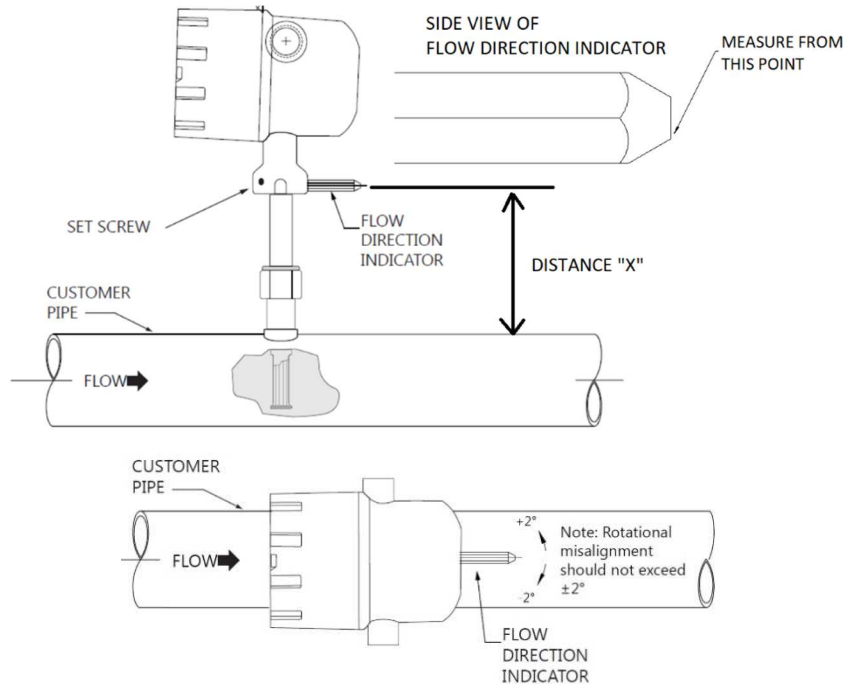

Figure 5: Meter Inserted into Pipe
7. Insert the meter sensing tube into the packing gland. Using Table 1 and Figure 5, center the meter's sensing element in the pipe by setting distance "X" (distance from the outer diameter of the pipe to the bottom of the pointer edge). This can be done carefully with a tape measure. Ensure that the pointer on the flow meter is pointing in the direction of flow.